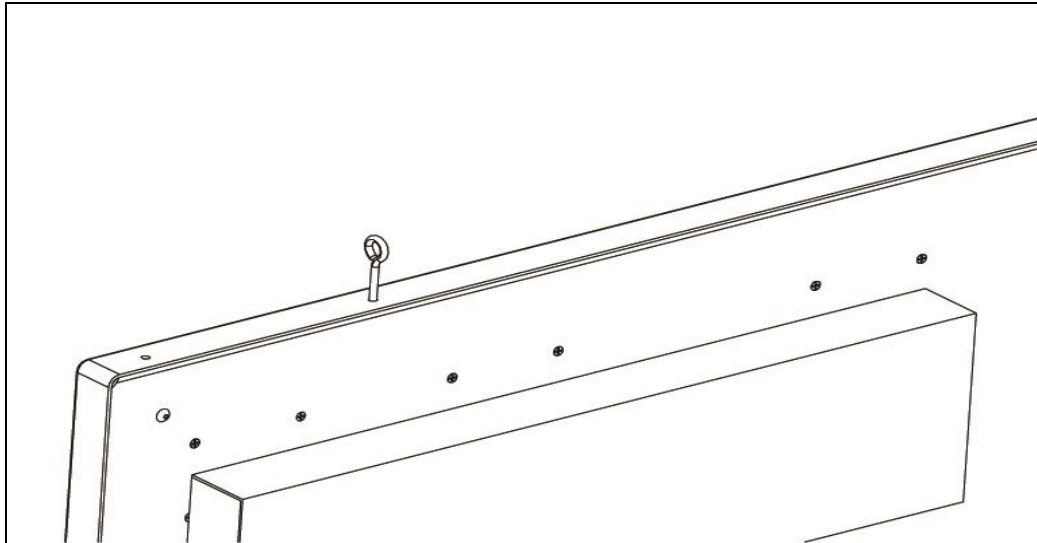

Figure 1 - Eyebolt Installation
2. Install eyebolts on sign as shown in Figure 1.